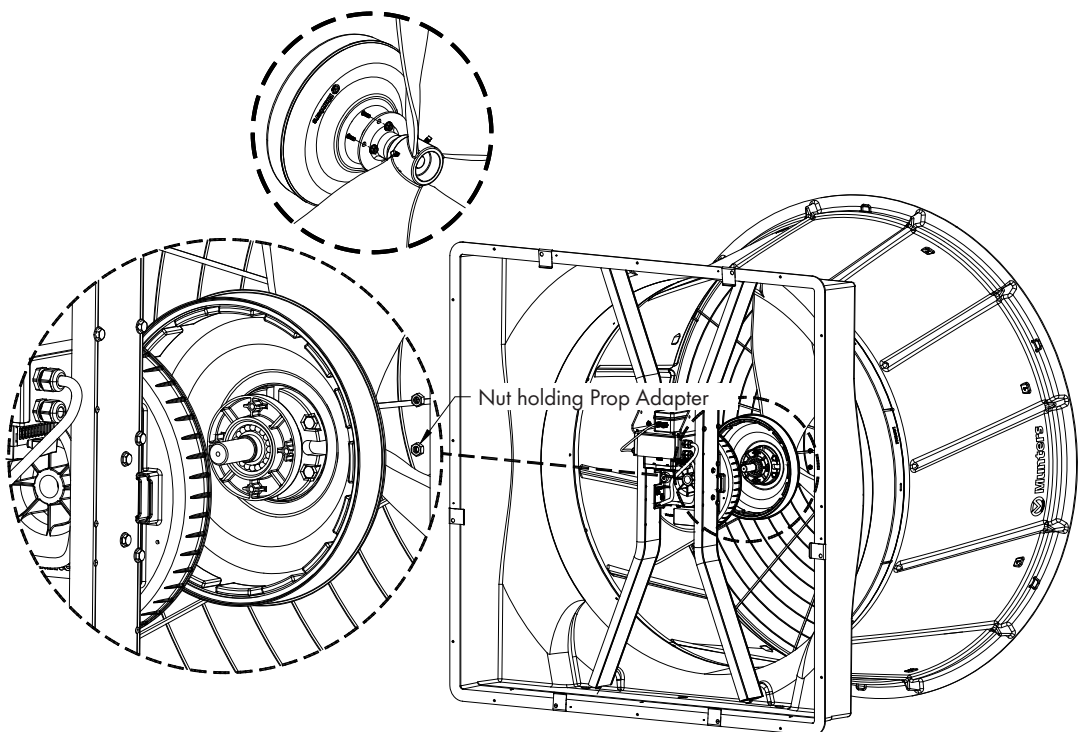

Figure 18
Once the Rotor with Hub and Propeller is removed from the Motor, remove the (4) Nuts holding the Prop Adapter to the Rotor and set aside to be reused. See Figure 18.